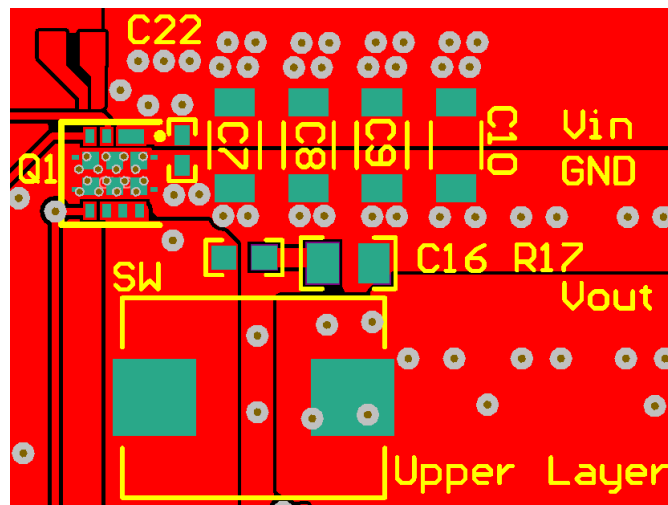
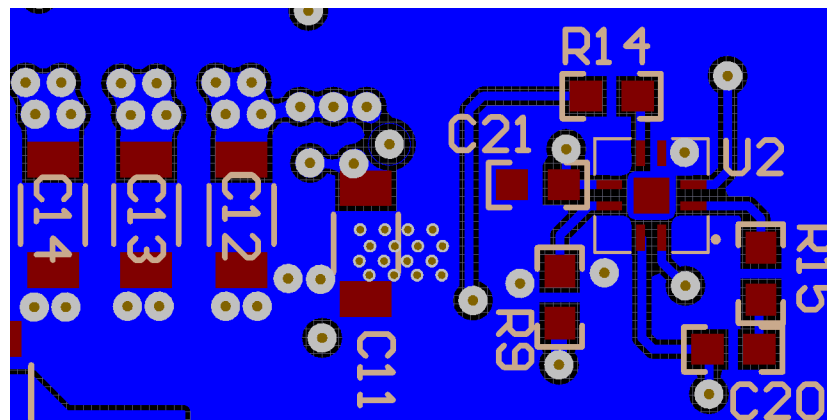

Figure 33. Recommended PCB Layout (Top Down View)
Figure 34. Recommended PCB Layout (Bottom View)
- The placement of the input capacitors relative to the power block's VIN and PGND pins should have the highest priority during the component placement routine. It is critical to minimize these node lengths. As such, ceramic input capacitors need to be placed as close as possible to the VIN and PGND pins (see Figure 33). It is recommended that one 3.3-nF (or similar), 0402, 50-V ceramic capacitor be placed on the top side of the board as close as possible to VIN and PGND pins. In addition, a minimum of 40  $\mu$ F of bulk ceramic capacitance should be placed as close as possible to the power block in a design. For high-density design, some of these ceramic capacitors can be placed on the bottom layer of PCB with appropriate number of vias interconnecting both layers.
- The switching node of the output inductor should be placed relatively close to the power block VSW pins. Minimizing the node length between these two components will reduce the PCB conduction losses and actually reduce the switching noise level. In the event the switch node waveform exhibits ringing that reaches undesirable levels, the use of a boost resistor or RC snubber can be an effective way to easily reduce the peak ring level. The recommended boost resistor value will range between 1.0  $\Omega$  to 4.7  $\Omega$  depending on the output characteristics of driver IC used in conjunction with the power block. The RC snubber values can range from 0.5  $\Omega$  to 2.2  $\Omega$  for the R and 330 pF to 2200 pF for the C. Please refer to Snubber Circuits: Theory, Design and Application (SLUP100) for more details on how to properly tune the RC snubber values. The RC snubber should be placed as close as possible to the VSW node and PGND (see Figure 33 and Figure 34).(1)
(1) Keong W. Kam, David Pommerenke, "EMI Analysis Methods for Synchronous Buck Converter EMI Root Cause Analysis", University of Missouri – Rolla
- Use the smallest drill size allowed in your design. The examples in Figure 33 and Figure 34 use vias with a 10-mil drill hole and a 16-mil capture pad.